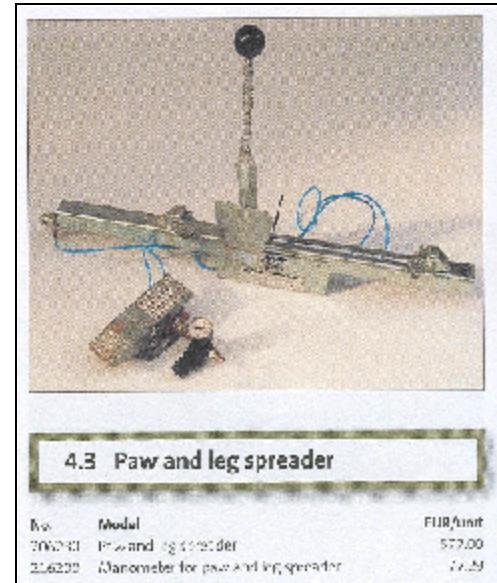

Figure 5: Paw and Leg Spreader
- **Paw and Leg Spreaders:** The Paw and Leg Spreaders are used in the final step before skinning. They loosen the skin from the body to make the skinning process easier and less likely to damage the pelt. Figure 5 shows this type of equipment.